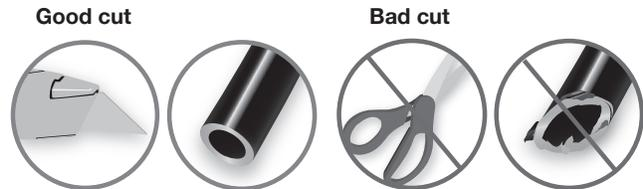

Fig. 12
2. If installing a single-path air line, choose a location for the tee fitting on the wheel well or rear bumper. Determine and cut adequate length of air line (B) to reach to the tee from left and right side air springs. Make clean, square cuts with a razor blade or hose cutter (Fig. 12). Do not use scissors or wire cutters.